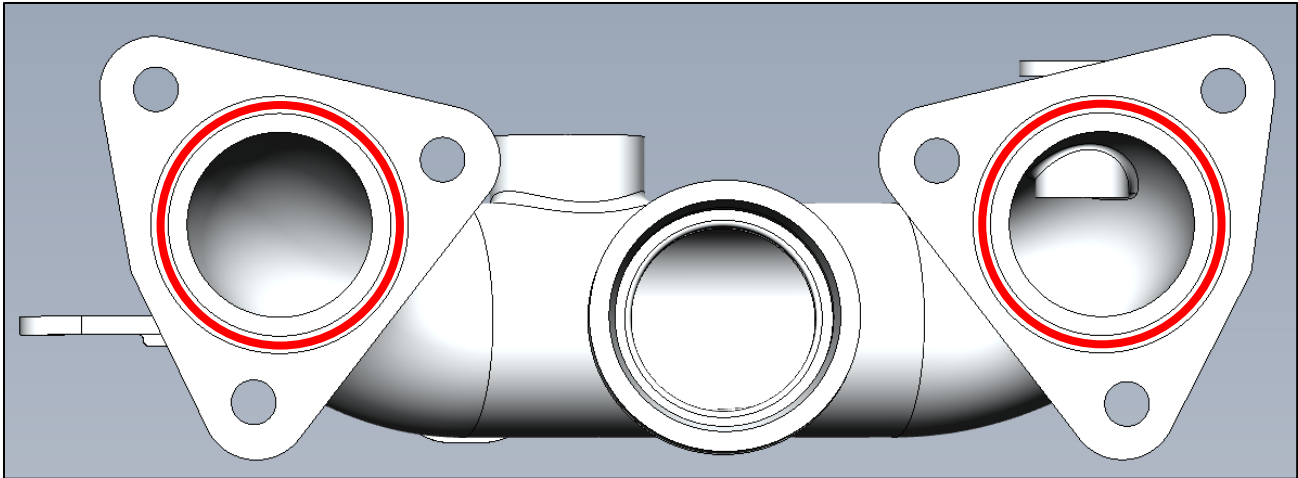

Figure 15
29. Locate the TEQSport Coolant Bypass Pipe and (2) two Circular Gaskets. Install the Gaskets into the grooves in the face of the Bypass Pipe. *Figure 15.*